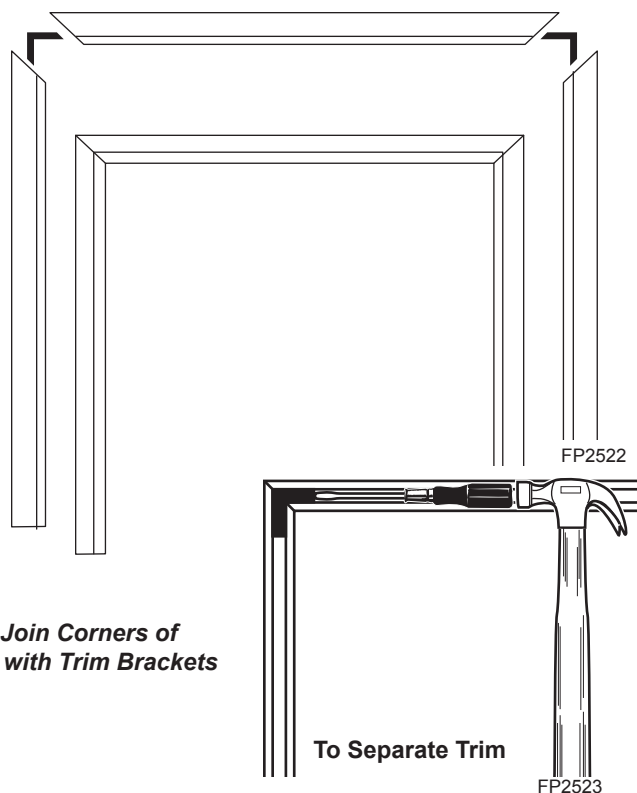

Figure 38 -
1. Remove black trim from protective packaging. Remove four (4) black screws and two (2) 90° angle trim brackets from owner's manual packaging.
2. Lay trim on floor and match corners of side trims to top trim. *Figure 38*
- Use one 90° angle trim bracket to join the corner of one piece of side trim to the corner of the top trim piece. *Figure 38*. A rubber hammer or handle of a claw hammer will help secure the corners.